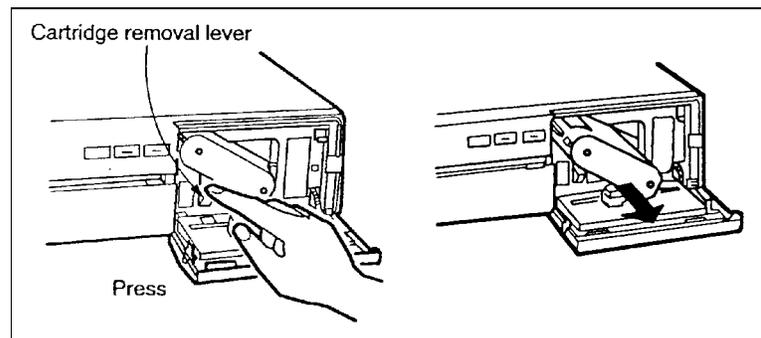

Figure 6-17. Removing the TX-2000 Ink Cartridge
2. Open the cartridge cover, remove the ink cartridge (Figure 6-17), then close the cartridge cover.